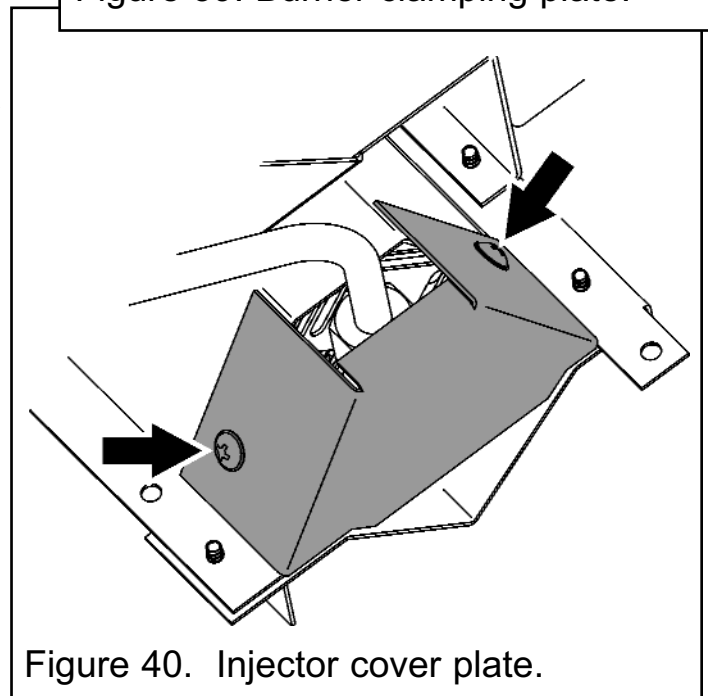

Figure 40. Injector cover plate.
3. Unscrew and remove the injector cover plate from underneath the burner (See figure 40).